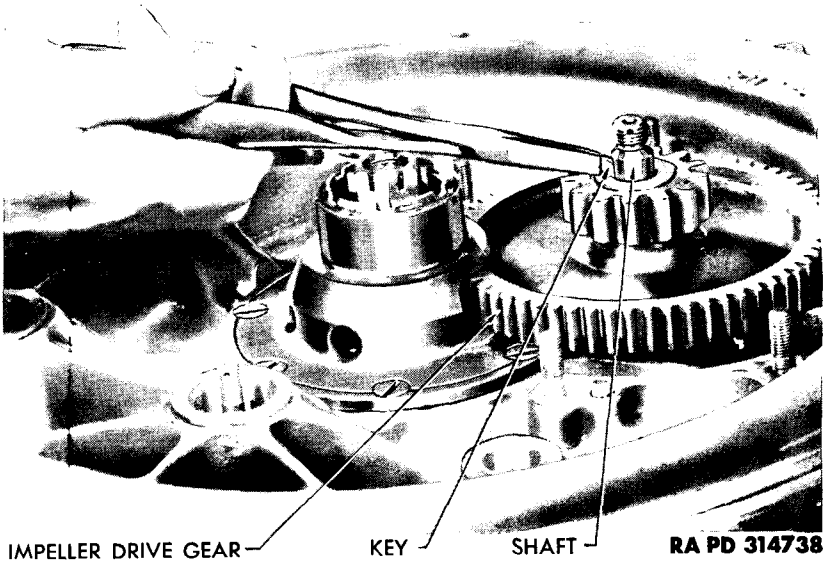

Figure 145 – Removing Key from Impeller Driver Gear Shaft
b. **Remove Impeller Drive Gear Shaft Support.** Remove cotter pin from nut on impeller drive gear shaft, and cotter pins from nuts holding shaft support to crankcase (fig. 145). Remove five nuts, one from gear shaft, and four from gear shaft support. Lift support off studs and shaft. Pull key out of top of impeller shaft. Shaft and gear will remain with diffuser section. *NOTE: It is important to remove key at this time to prevent possibility of key dropping down with the impeller drive gear into bearing after impeller has been removed.*
d. **Remove Impeller Drive Gear and Shaft.** Push impeller drive gear shaft up through diffuser section. At same time, hold drive gear and bushing from below. Upper end of shaft, before removal, is shown in figure 145. Remove diffuser section from fixture; turn section over and reinstall on same fixture.